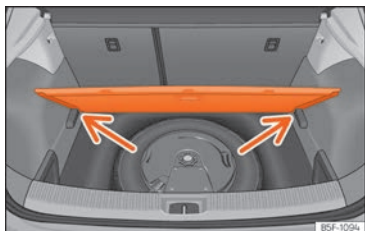

Fig. 192 Boot: variable floor
- Rest the floor on its housings »» Fig. 192 [arrows].